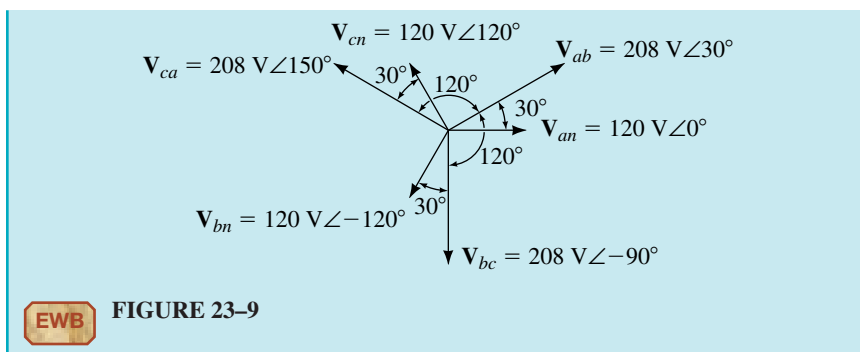

FIGURE 23-9
- The phasors are shown in Figure 23-9.